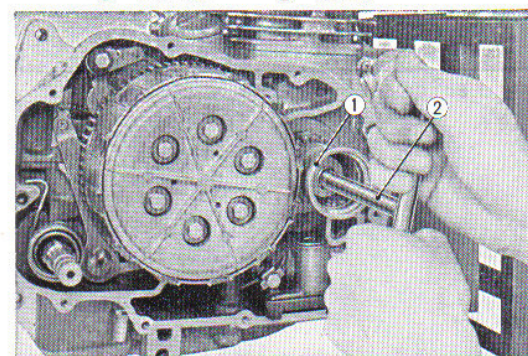

Fig. 3.77 Removing the oil filter rotor
3. Straighten the tongue of the spring washer pawls and remove the 16mm lock nut. The filter rotor can then be removed. (Fig. 3.77)